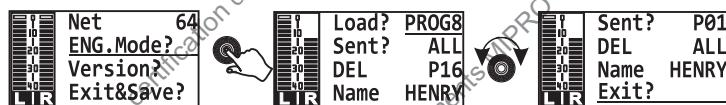

Fig. 16
9. ENG. Mode (Engineer Mode), as Fig. 16: In this mode, you can load the settings of the other MI-58R receivers by one MI-58T.